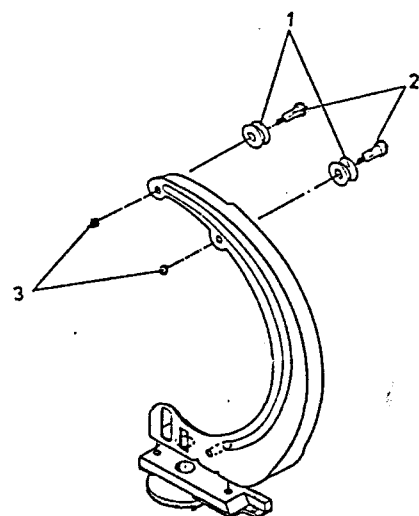

Fig. 4
| 5. Roller | part number 0038320 | (Fig. 4, Pos. 1) |
| 6. Shaft for roller | part number 0038315 | (Fig. 4, Pos. 2) |
| 5. Gripper arm complete | part number 0038431 | (Fig. 4) |
- Undo the old shaft and remove old rollers with shafts (Fig. 4, Pos. 1+2).
- Fix the new parts with the nuts of the old ones (Fig. 4, Pos. 3).